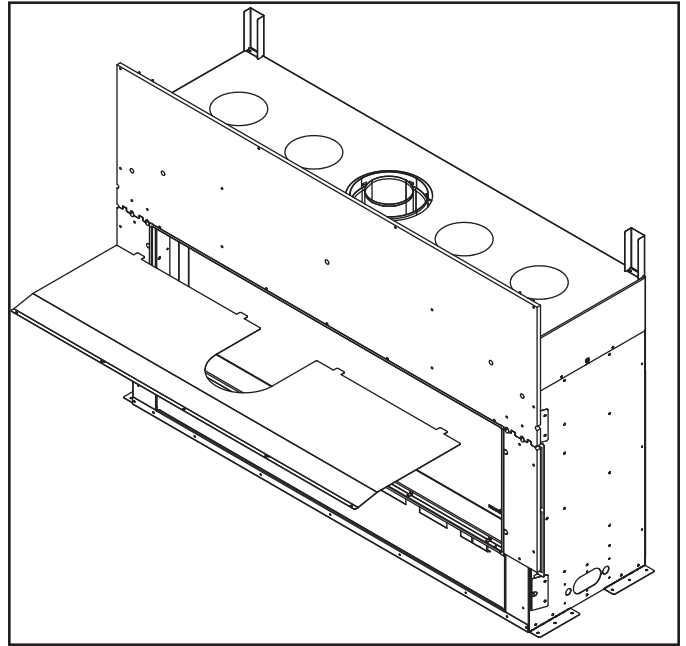
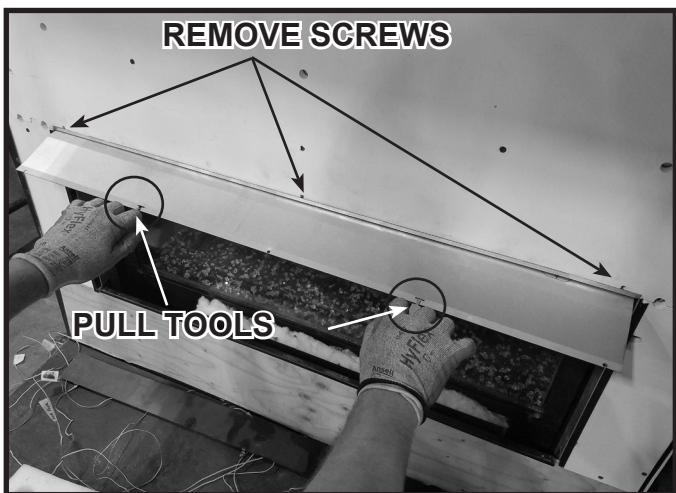

Figure 15 Remove Heat Shield
Figure 14 Use Pull Tools to Remove Heat Shield
4. Remove the screws from the heat shield as shown in Figure 14. Quantity and location of screws will vary between models.
7. Carefully pull the heat shield out of the appliance as shown in Figure 14 and Figure 15. Discard heat shield. Repeat procedure on other side if application is on a see-through appliance.